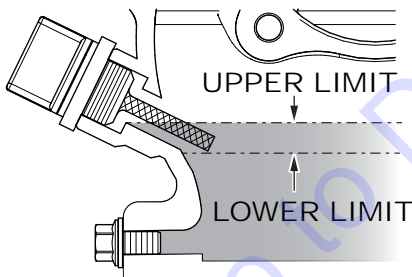

Figure 24. Engine Oil Level
4. If the oil level is low (Figure 24), fill to the edge of the oil filler hole with the recommended oil type as listed in Table 7. Refer to Table 3 for maximum engine oil capacity.